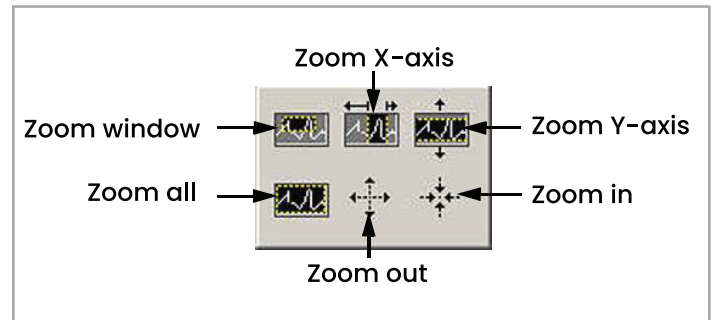

Figure 45: Zoom tool
- Zoom Tool - gives you six options as shown in Figure 45 below.